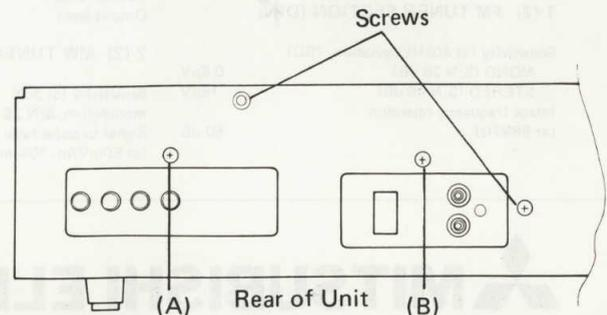
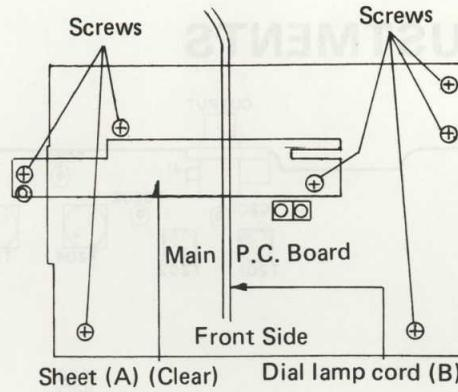

Figure 3
Figure 5
- (1) Squeeze the antenna holder at the points shown by the black arrows then carefully pull the antenna holder from its mount.
- (2) Remove the screws shown in figure 3 from the rear of the unit.
- (4) Remove the seven screws shown in figure 5. Now the Main P.C. board with the front sub-panel can be removed. By doing this it is not necessary to remove the dial cord.
- (5) When reinstalling insert the rear portion in first. Reinstall screw (A) shown in figure 3.
- (6) Install screw (B) shown in figure 3 along with the lead clammer shown in figure 6. Dial lamp cord should be as shown in figure 5.